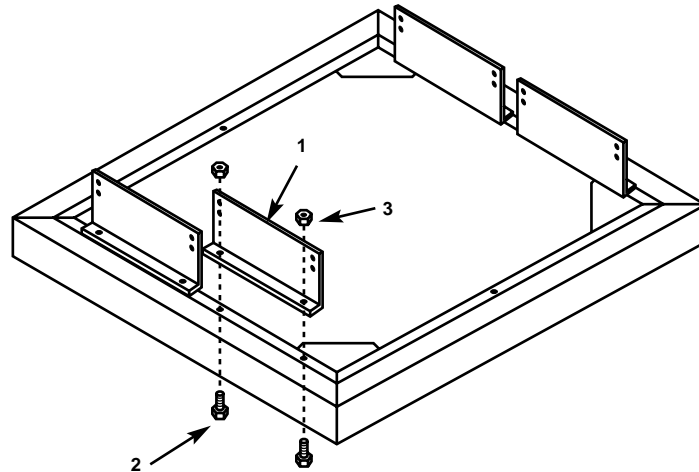

Figure 1. Attaching support plates to the cabinet base.
1. Attach support plates (item 1) to the cabinet base. Make sure that the flange is oriented as shown in **Figure 1**, and attach it using ¼-20 x ½" hexbolts (item 2) or ¼-20 x ½" carriage bolts (item 2A) and ¼-20 hexnuts (item 3). If the unit has round holes, use item 2. If the unit has square holes, use item 2A. Tighten the hardware securely. Repeat for remaining plates.